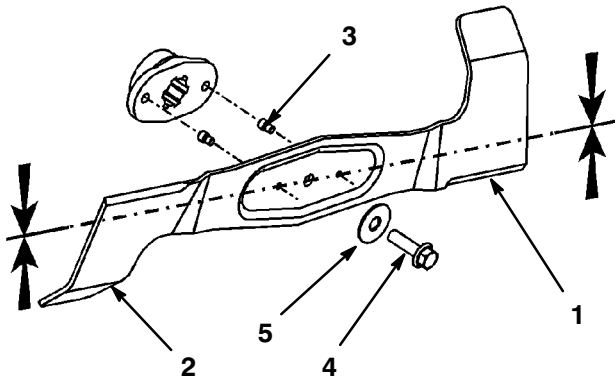

Figure 37
- Inspect the cutting edges (Fig. 37). If the edges are not sharp or have nicks, remove the blades and sharpen them; refer to Sharpening the Blade(s), page 36.
- Inspect the blades, especially the bent edges (Fig. 37). If you notice any wear or damage in this area, immediately install a new blade.
- If the shear pins are broken, replace them immediately (Fig. 37).
- Remove the bolt, washer and blade (Fig. 37). A block of wood may be wedged between the blade and the mower to lock the blade when you are removing the bolt.
1. Install the blade, washer, and blade bolt (Fig. 37).